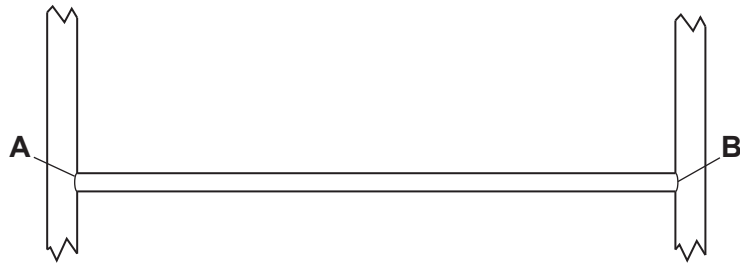

Fig. 10.2
- (iv) A part view of joints **A** and **B** of the trestle frame is shown in Fig. 10.2.